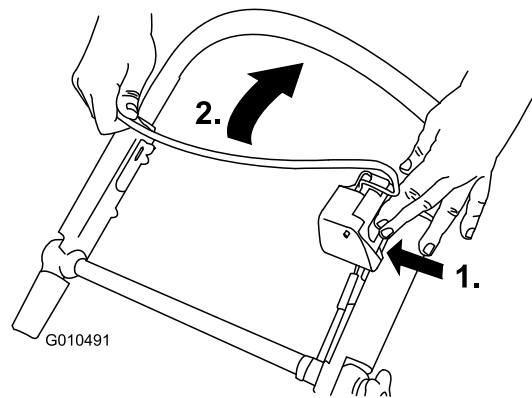

Figure 25
- Push the blade-control button and pull the blade-control bar to the handle (Figure 25).